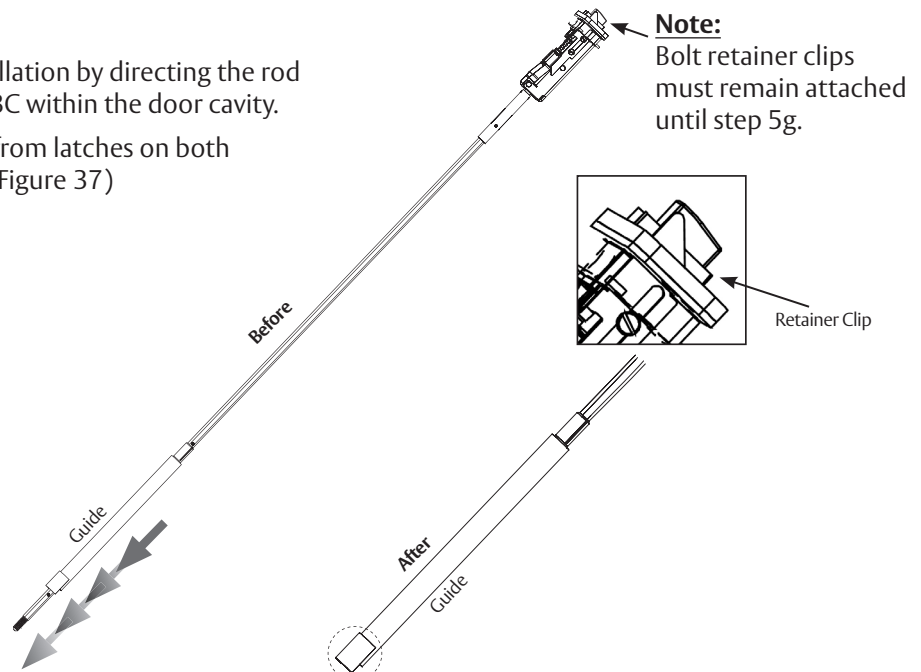

Figure 37
- Pull rod guides away from latches on both rods until they stop. (Figure 37)